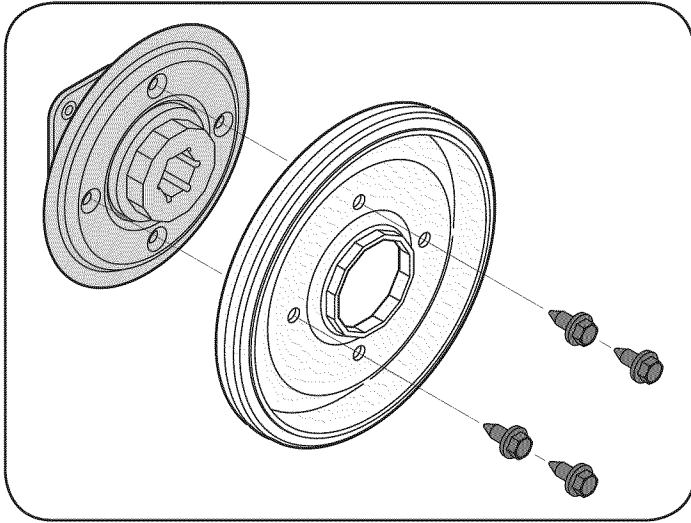

Figure 36
7. Remove four screws securing the friction wheel to the hub assembly (refer to Figure 36). Discard old friction wheel.